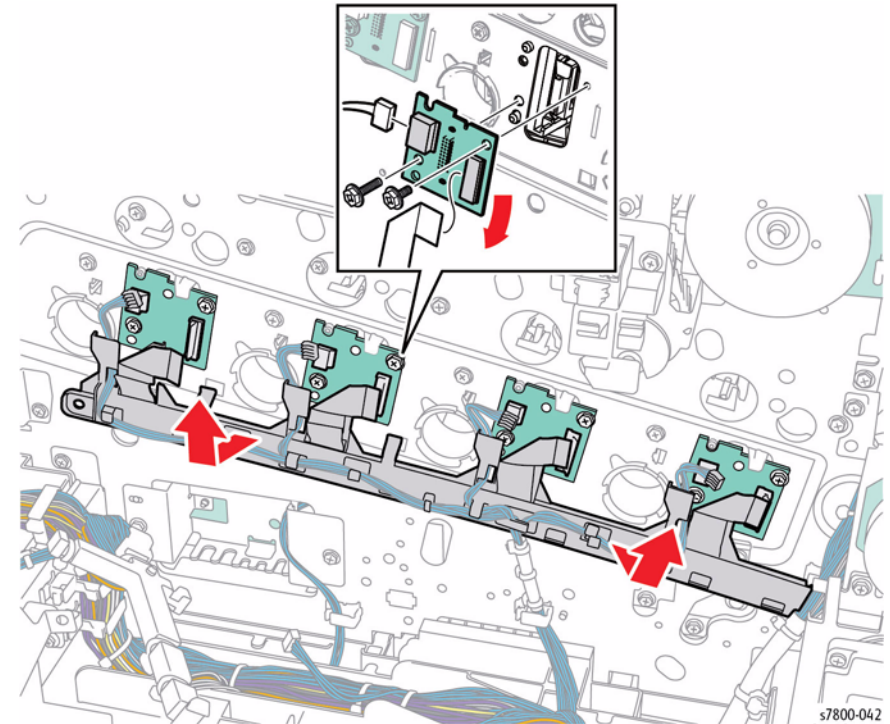

Figure 2 Removing the LPH Cable Assembly and LPH PWB
11. Release the 2 hooks and remove the LPH Cable Assembly in the direction of the arrow as shown in Figure 2.